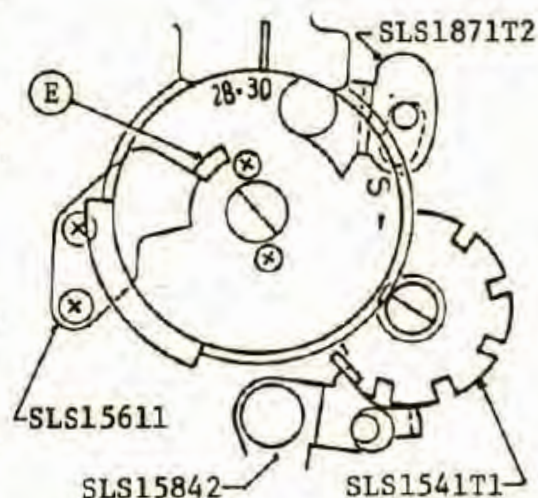

Fig. 77-2
Therefore, after the fixed number of exposures have been taken (30), the (E)-protrusion strikes against the SLS15611 Stopper as shown in Fig. 77-2.